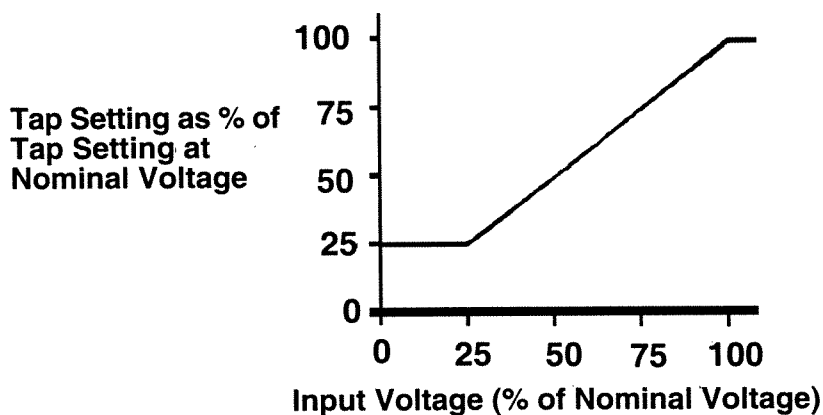

Figure 2-11 Voltage Restraint (51V) Characteristic
■ **NOTE:** This function should be blocked by fuse loss if in the voltage control mode. Fuse loss blocking is not desirable for the restraint mode because the pickup is automatically held at 100% Tap Setting (see Figure 2-11) during fuse loss conditions, and will continue to operate correctly.